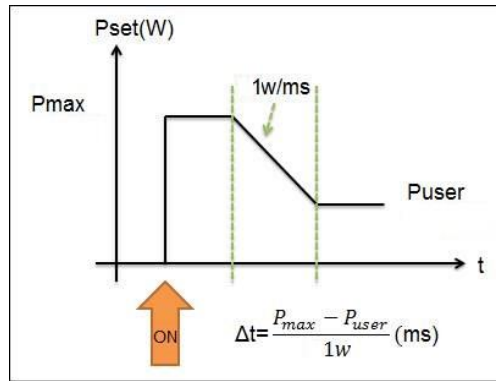

Figure 3-15
2. This option is to set the slew rate of the DC power supply's output power. The definition of the fixed Slew Rate is 1W/ms, and the output power of the DC power supply is set based on this slew rate. (See Figure 3-15 for the calculation formula.)